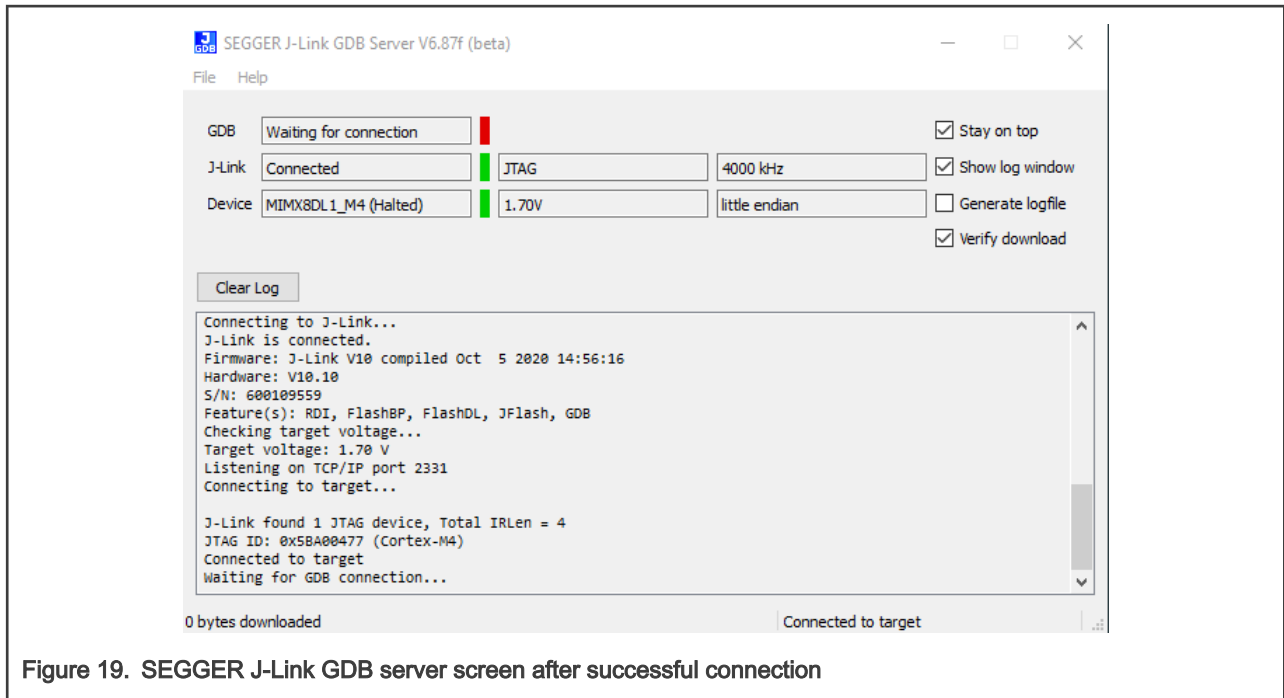

Figure 19. SEGGER J-Link GDB server screen after successful connection
4. After GDB server is running, the screen should resemble Figure 19.